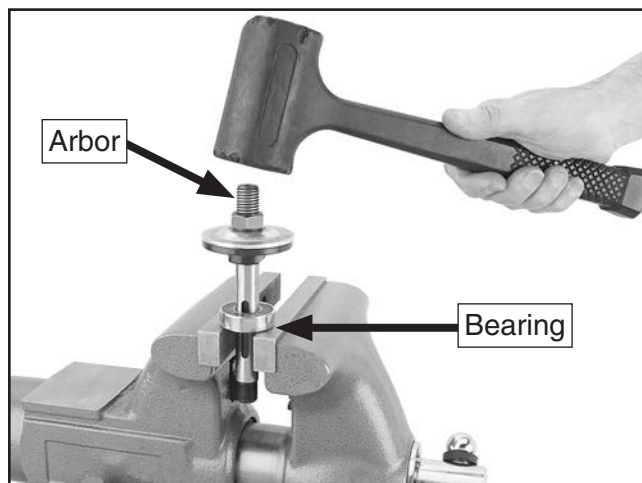

Figure 143. Seating arbor into new bearing.
19. Slide new 6203-2RS ball bearing (PN# P1023RL100), onto arbor shaft, then place arbor between vise teeth, as shown in **Figure 143**.
20. Using rubber hammer, seat arbor onto bearing (see **Figure 143**), then remove it from vise.